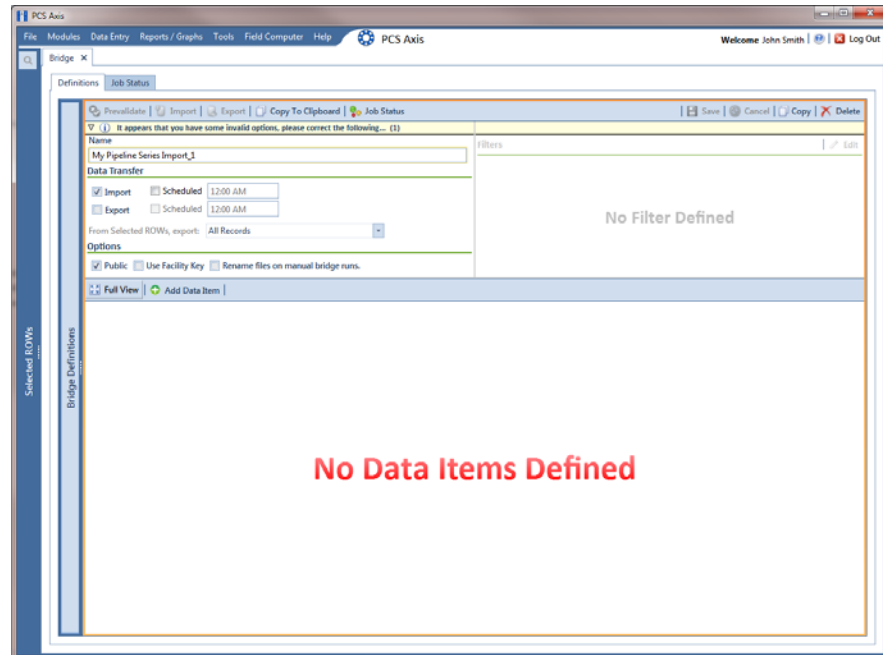

Figure 10-49. Bridge Import Definition
- 5 Set properties in the *Options* group box as follows (Figure 10-49, page 475):